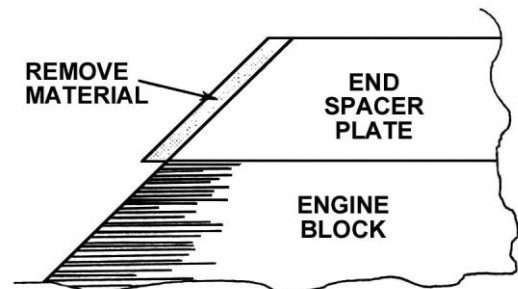

FIGURE 1
**NOTE:** These holes are normally used for gasket alignment. Material may have to be removed from each end of the spacers for proper alignment to the cylinder block. (See Figure 1). Should material need to be removed, carefully grind or file away, maintaining the correct angle, until the end spacer is the proper length.
- D. To maintain consistent spacer alignment, it is advised to screw the plates to the cylinder heads. This can be accomplished by properly positioning the spacer plates on the cylinder heads, and then drilling two (2) holes through each plate and into the cylinder heads. When drilling into the cylinder heads, make sure it is in an area with enough material to tap threads for the attaching screws. The holes in the spacer plates will need to be countersunk and tapered head screws used so that the screw head is flush or below the surface of the spacer plates.